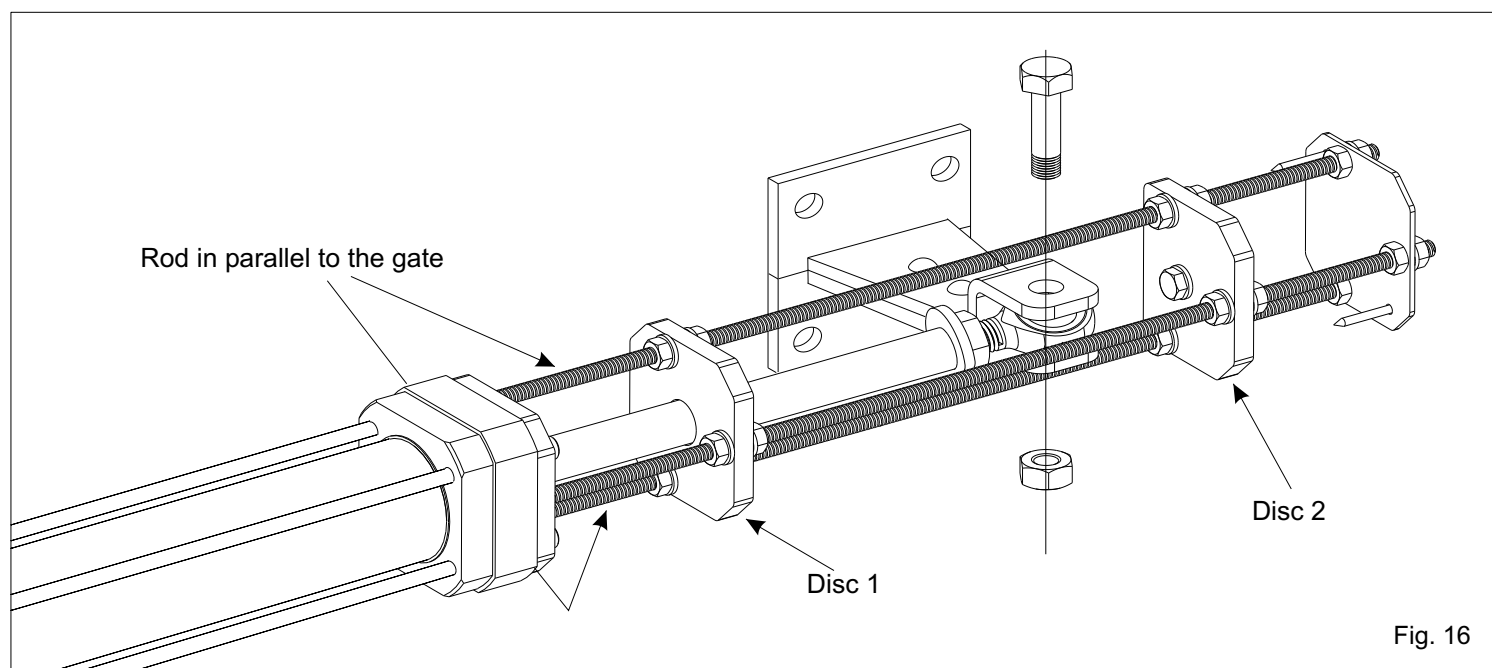

Fig. 16
- Put the limit switch stops on the front flange of the unit with the two rods (of the three which are present on the stop) which are in parallel to the gate (Fig. 16)